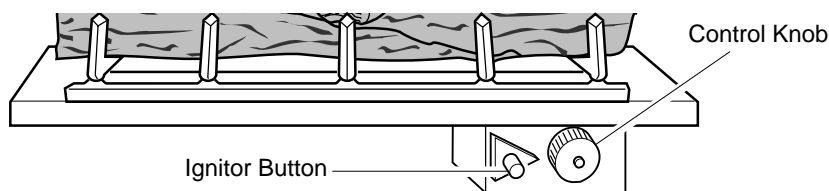

Figure 26 - Control Knob and Ignitor Button Location
4. Wait five (5) minutes to clear out any gas. Then smell for gas, including near the floor. If you smell gas, STOP! Follow “B” in the safety information above. If you don’t smell gas, go to the next step.
5. Turn control knob counterclockwise  to the PILOT position. Press in control knob for five (5) seconds (see Figure 26, above).